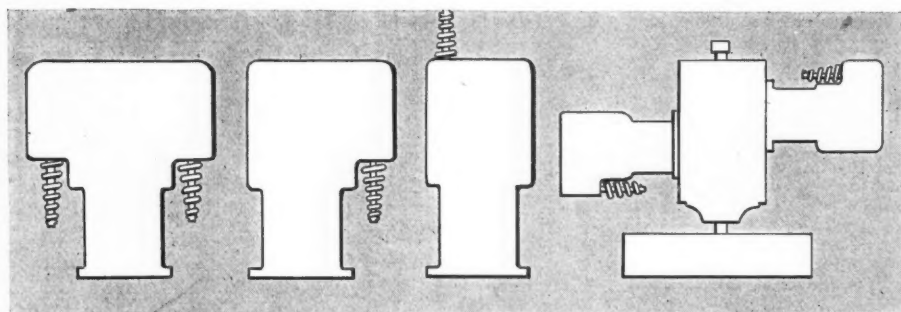

FIG. 1—THREE CYLINDER SHAPES AND TWO-CYLINDER OPPOSED MOTOR
A veteran type in motors is to be seen in the two-cylinder opposed motor characteristic of a number of commercial vehicles on the market for 1913. The Schmidt, Oliver, Lincoln, Monitor and Best are a few examples of cars with this type of engine. At the extreme right of Fig. 1 is an illustration of the two-cylinder opposed motor. As it appears in the illustration the flywheel is facing downward and the two cylinders placed on either side of the crankcase.
**Cylinder Shape**—L-head and T-head refer to cylinders whose shape resembles those shown in Fig. 1. The L-head resembles the letter L inverted and the T-head the letter T. The straight cylinder and the 2-cycle cylinder may be classed as one, with the exception that the